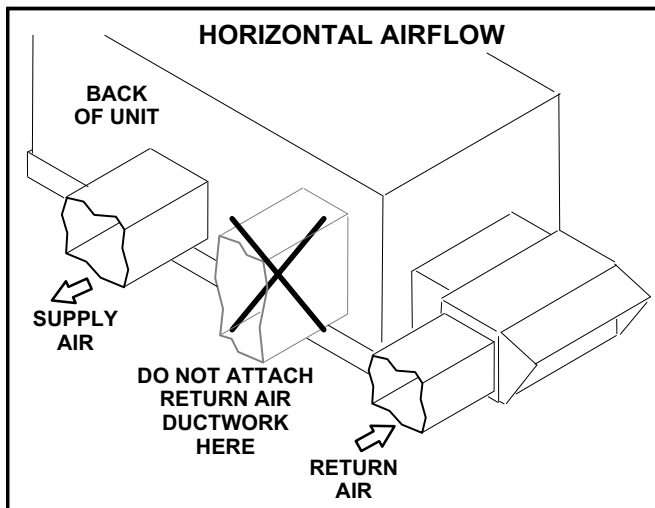

FIGURE 14
- 3- Make sure the horizontal return air cover on the back side of the unit remains in place. The opening is used when an economizer is not installed. See figure 14.